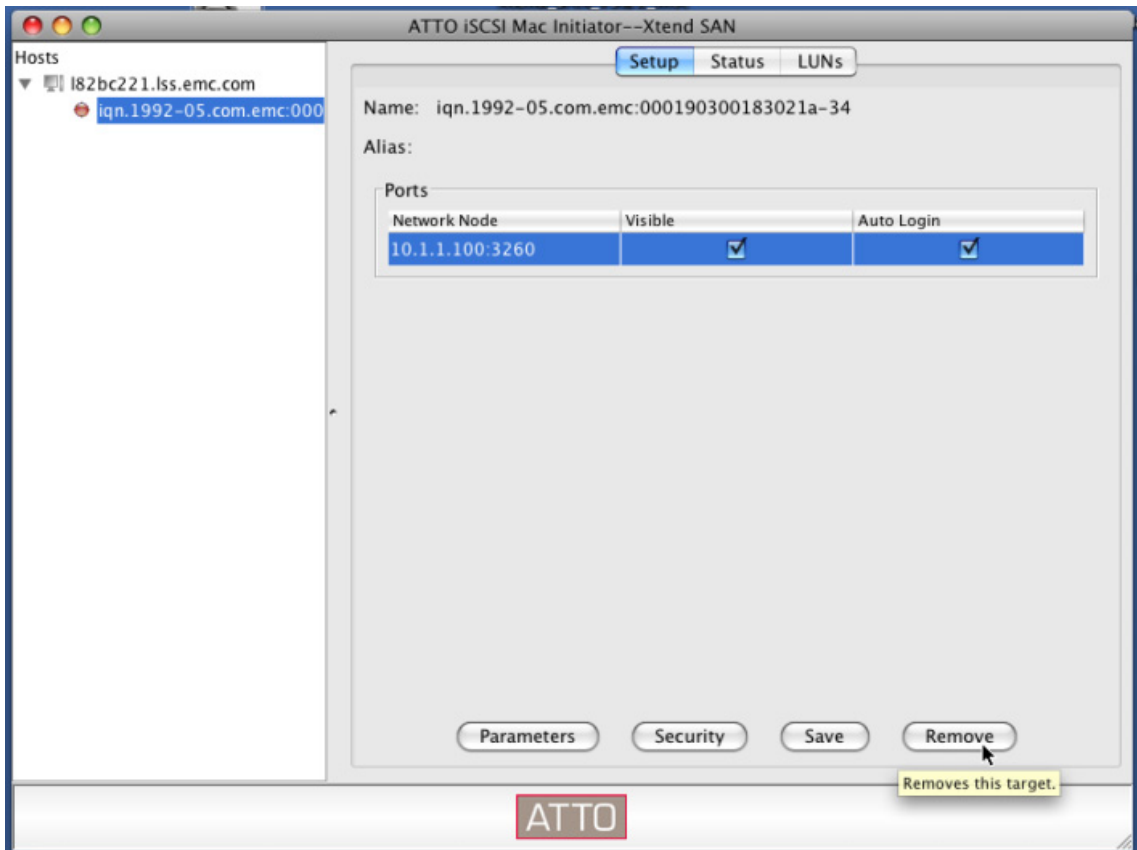

Figure 14 Setup dialog box
The **Setup** window appears, displaying the iqn of the Celerra target discovered, as shown in the left panel in Figure 14.
5. Enable **Visible** and **Auto Login** by clicking the checkbox, then click anywhere on the line to highlight the IP address, as shown in Figure 14.
The **Setup** dialog box (shown in Figure 14 on page 38) displays again.
9. Click **Save** in the **Setup** dialog box, as shown in Figure 14.